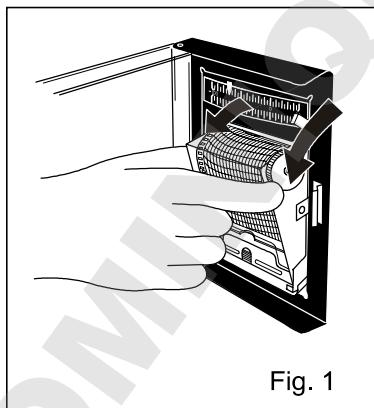

Fig. 1
1. Open the door and let down the pen-holder lever; the pen point is apart from the recording chart. (Fig. 1)